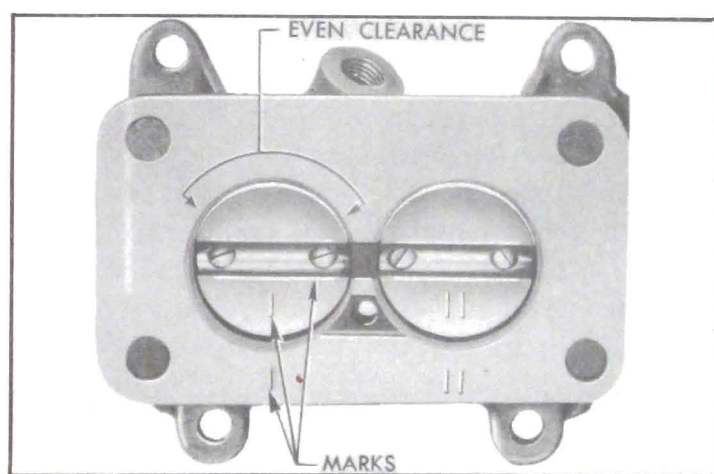

Figure 3-74—Correct Position of Throttle Valves
barrel of throttle body. Using a sharp scriber, lightly scratch one line on one valve and its barrel and two lines on the other valve and barrel; also scribe lines on each valve along both edges of the valve stem. See figure 3-74. After marking the parts remove screws and slide valves out of stem.
3. Reinstall each throttle valve in the same barrel of throttle body from which it was removed, as shown by identification marks made before removal. The dash mark (-) stamped in valve must be toward top of body. Loosely install new valve screws and carefully align the valves with the scribe marks previously made along edges of valve stem, then tighten screws. See figure 3-74.
4. With valves held in closed position, hold throttle body to the light and check for even clearance between each valve and the barrel. See figure 3-74. If clearance is excessive at any point, shift valve in stem until it fits the barrel